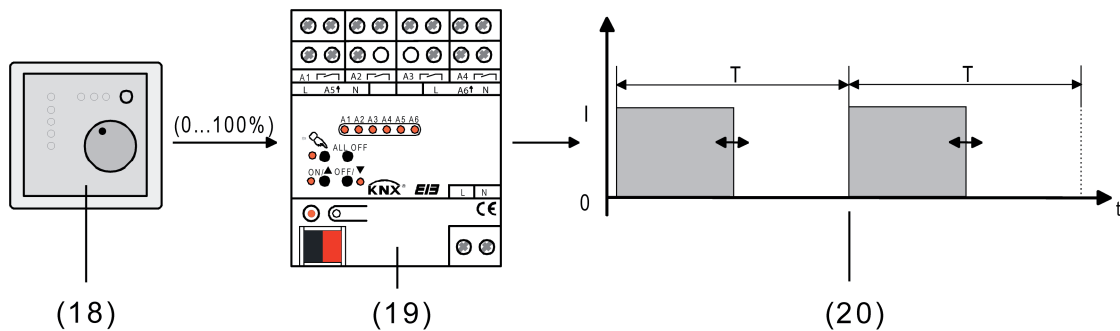

Figure 52: Command value principle with constant command value
(15) Room thermostat (command value "1 bit")
(16) Room actuator
(17) Switching output signal for valve drives
In normal operation, the value telegram received via the 1-byte object "Command value" is converted by the actuator into an equivalent pulse-width modulated switching signal on the valve outputs (Figure 52). The mean value of the output signal resulting from this modulation is a measure for the averaged valve position of the control valve, taking into account the cycle time (T) which can be set in the actuator, and thus a reference for the set room temperature (see "Pulse-width modulation with constant command values and constant nominal valve positions").